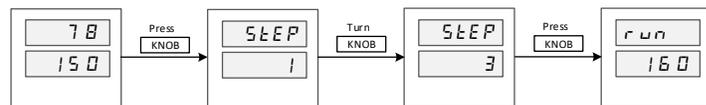

Figure 12. Jumping from one step to another while the program is running.
d) Jump to another step. While the program is running, it can be jumped from the current step to another step in the program. This operation is not valid if the program is ended or stopped. The operation is shown in Figure 12. Press the knob to bring up the Quick Access Menu. The top window will show “STEP” and the current step number will be shown in the lower window. Turn the knob to find the desired step number and press down the knob to confirm. If you select a valid step number, the controller will jump to the selected step and executing the new step. If you select the current step number or a non-valid step number, the controller will take no action and simply return to the main operation interface. Here, a non-valid step refers to a step whose step-timer is set to SKIP or a step behind the last step of a program.